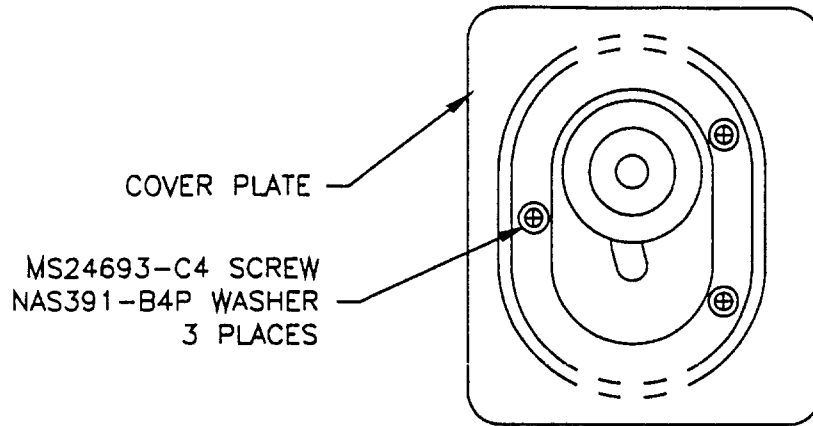

Figure 6.
10. Reattach the cover plate using three MS24693-C4 Screws and three NAS391-B4P Washers as shown in Figure 6.